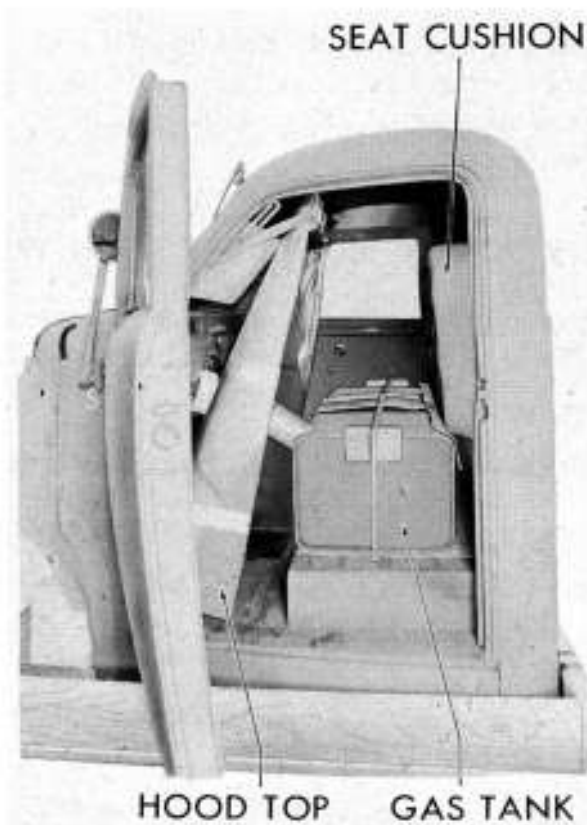

Figure 9—Cab Interior as Packed
c. Unpacking Cab (fig. 9). Cut band around back of each cab and through door windows. Remove seat cushion and padding from each cab. Unfasten the fuel tanks and remove from cabs. Remove hood top panel tie straps at windshield and floor of cabs and remove hoods; these tie straps are removed from cabs because they are not needed.